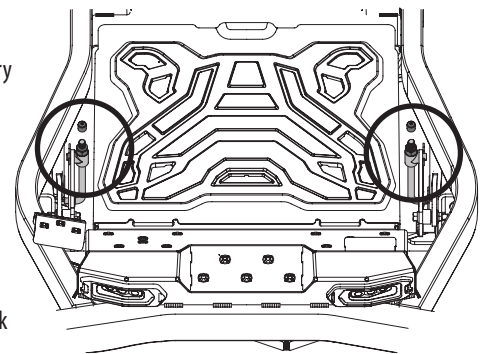

Figure 44
- a. Remove the end cap on both front deck height adjust rods and save for later re-installation. See Figure 44.
- b. Rotate both front nuts clockwise to raise the front deck pitch or counter-clockwise to lower the front deck pitch, depending on the needed adjustment. Adjust each nut equally. See Figure 44.